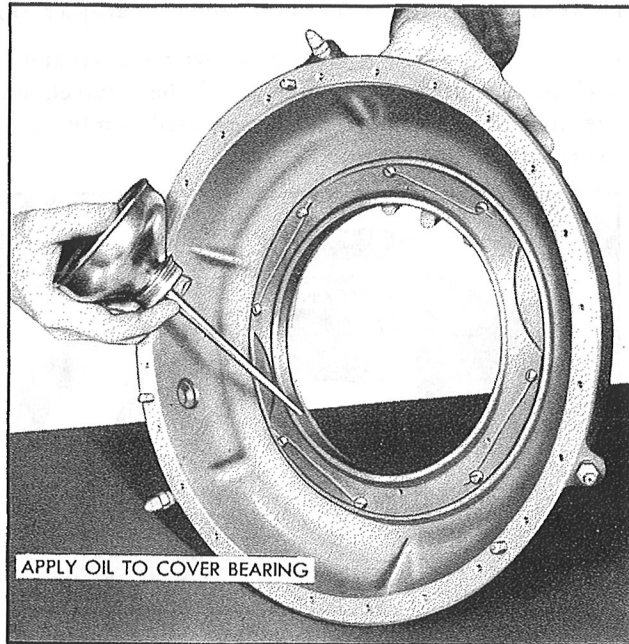

Figure 162—Installation of the Regulator Cover
*Step 24.*—Using recommended propeller oil, lubricate the regulator cover bearing, as shown in Figure 162.